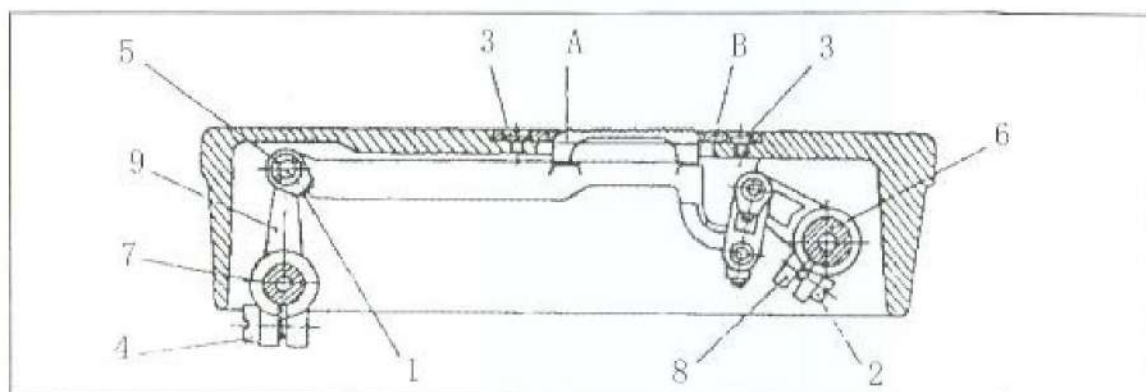

Fig.17
25. The feed dog height adjustment (Fig.17)
26、 The feed dog obliquity adjustment(Fig.17)